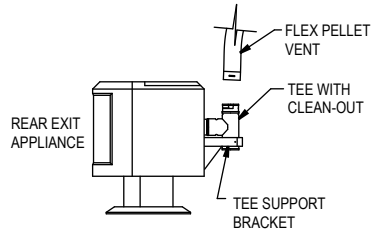

Figure 12
9. If a Tee is necessary to make the connection, as shown in Figure 12, the Tee has a removable Clean Out Adapter on its base to enable cleaning. The Tee Support Bracket to hold the Tee to the rear of the appliance is mandatory. If it is desired to mount the Tee Support to the rear of the stove, obtain approval from the manufacturer of the stove before drilling, tapping, or performing any other alterations to the appliance.